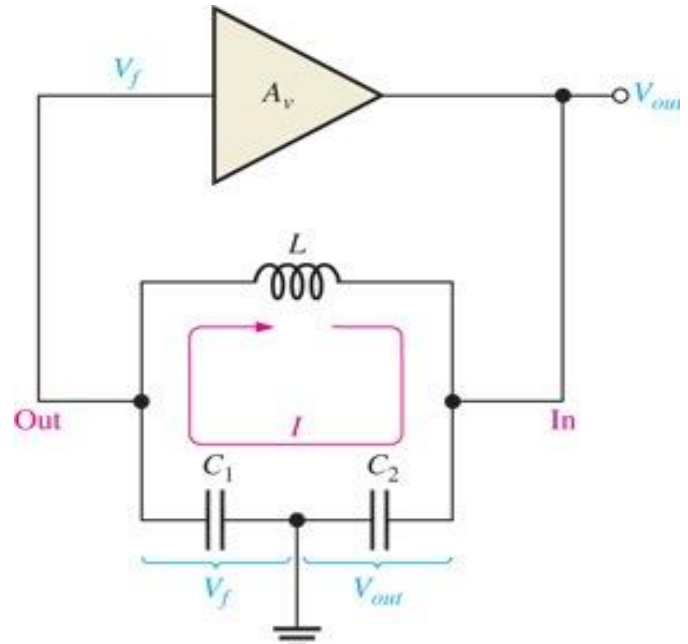

Figure 15 The attenuation of the tank circuit is the output of the tank (V_f) divided by the input to the tank (V_{out}). $B = V_f/V_{out} = C_2/C_1$
- Figure 15 shows that the circulating tank current is through both C_1 and C_2 (they are effectively in series).
- The expression for the attenuation (B) is
- where A_v is the voltage gain of the amplifier, which is represented by the triangle in Figure 15.